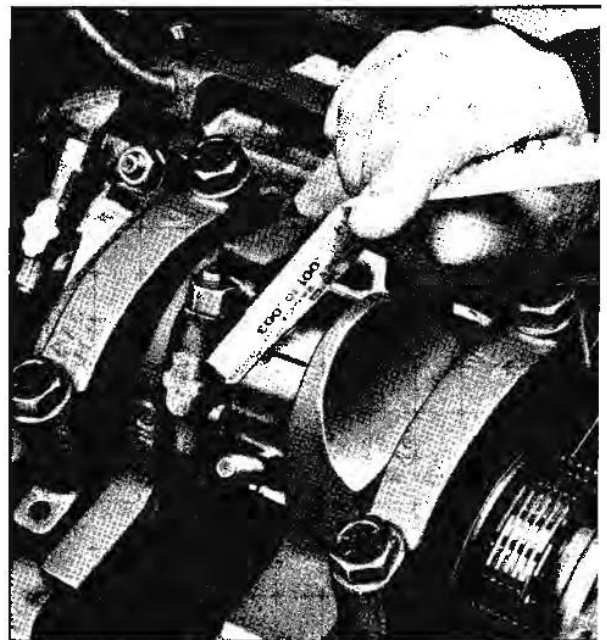

Fig. 6-139 Arbor Press Piston
3. Remove bearing cap and using Plastigage scale on envelope measure width of compressed Plastigage before removing it from the crankpin or bearing (Fig. 6-139). If the bearing clearance is between .0005" and .0025" the clearance is satisfactory. If the clearance is more than .0025" replace the bearing with the next size undersize bearing and recheck clearance. Bearings are available in .001" and .002" undersize.